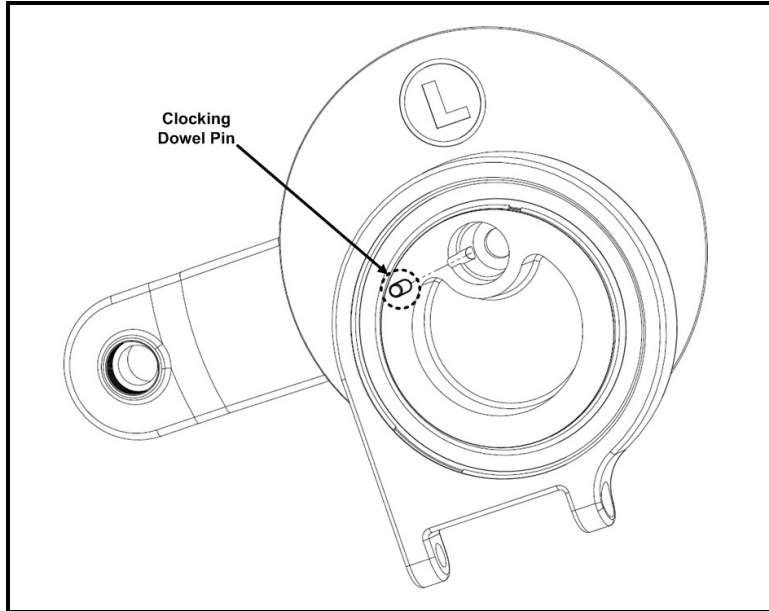

Fig. 6
6. To reinstall the new crank arms, insert the clocking dowel pin (Fig. 6) into the groove that is machined into the new cranks female bore.